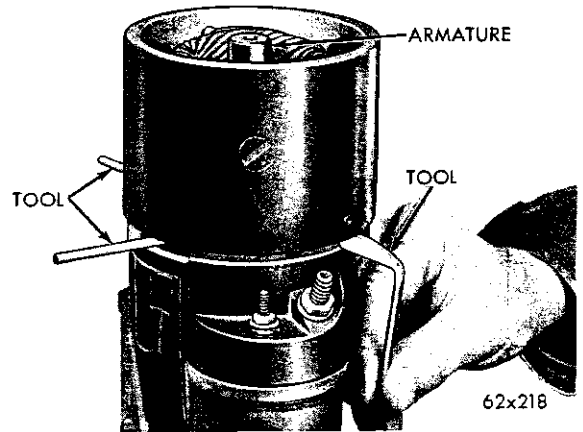

Fig. 44—Removing Brush Positioning Tools
(24) Remove the brush positioning Tools C-3855 (Fig. 44).